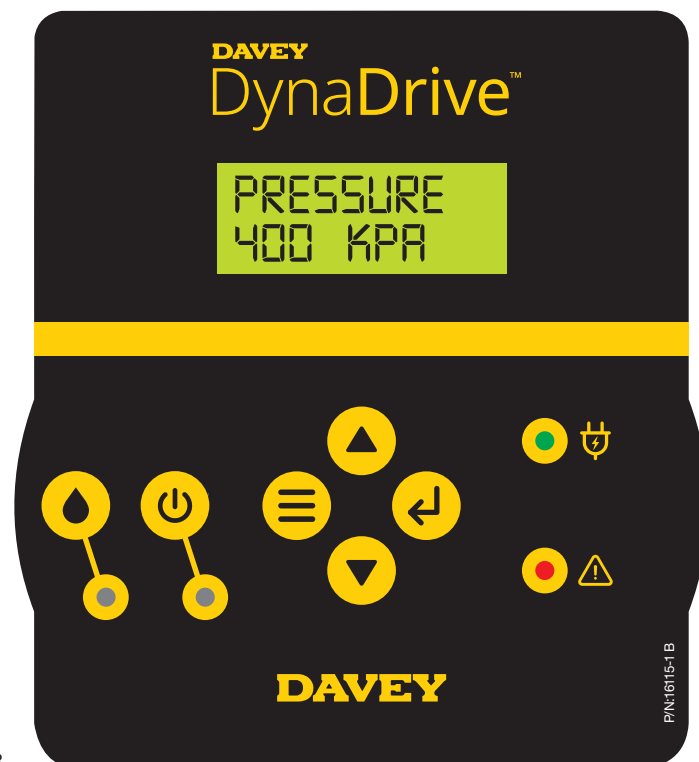

Figure 7.8
- Once the motor has slowed to a stop, press and hold the  **Menu button** and  **Enter button** for ~ 5 seconds. The display will change to show your current set pressure, see figure 7.8;
- The green  **Automatic LED** will turn off, see figure 7.8;